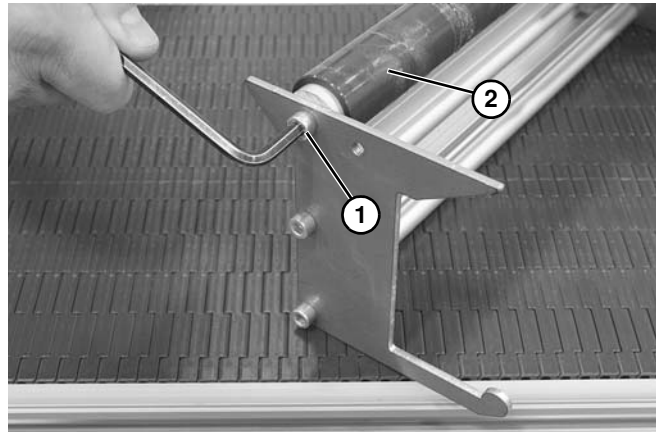

Figure 48
3. Remove screw (**Figure 48, item 1**) on both sides of bracket and remove takeup roller (**Figure 48, item 2**).